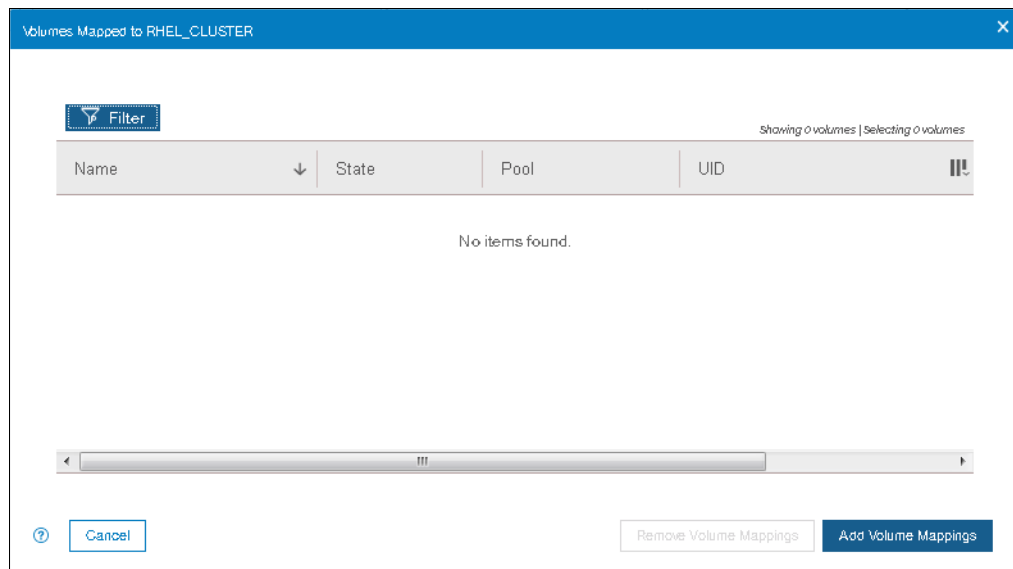

Figure 5-89 Volumes mapped to host cluster
3. A window showing list of volumes currently mapped to the selected host cluster shows up as shown in Figure 5-89.